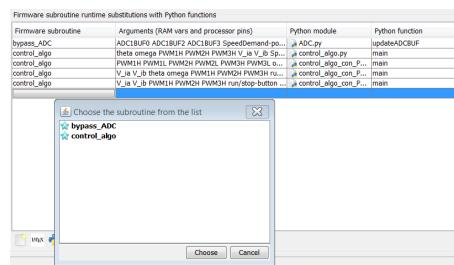

Figure 4.5: Select the alias of the firmware function to be substituted, and press **Choose** to confirm the selection or **cancel** to discard it.
- the alias of the firmware function to be substituted, see Fig. 4.5;